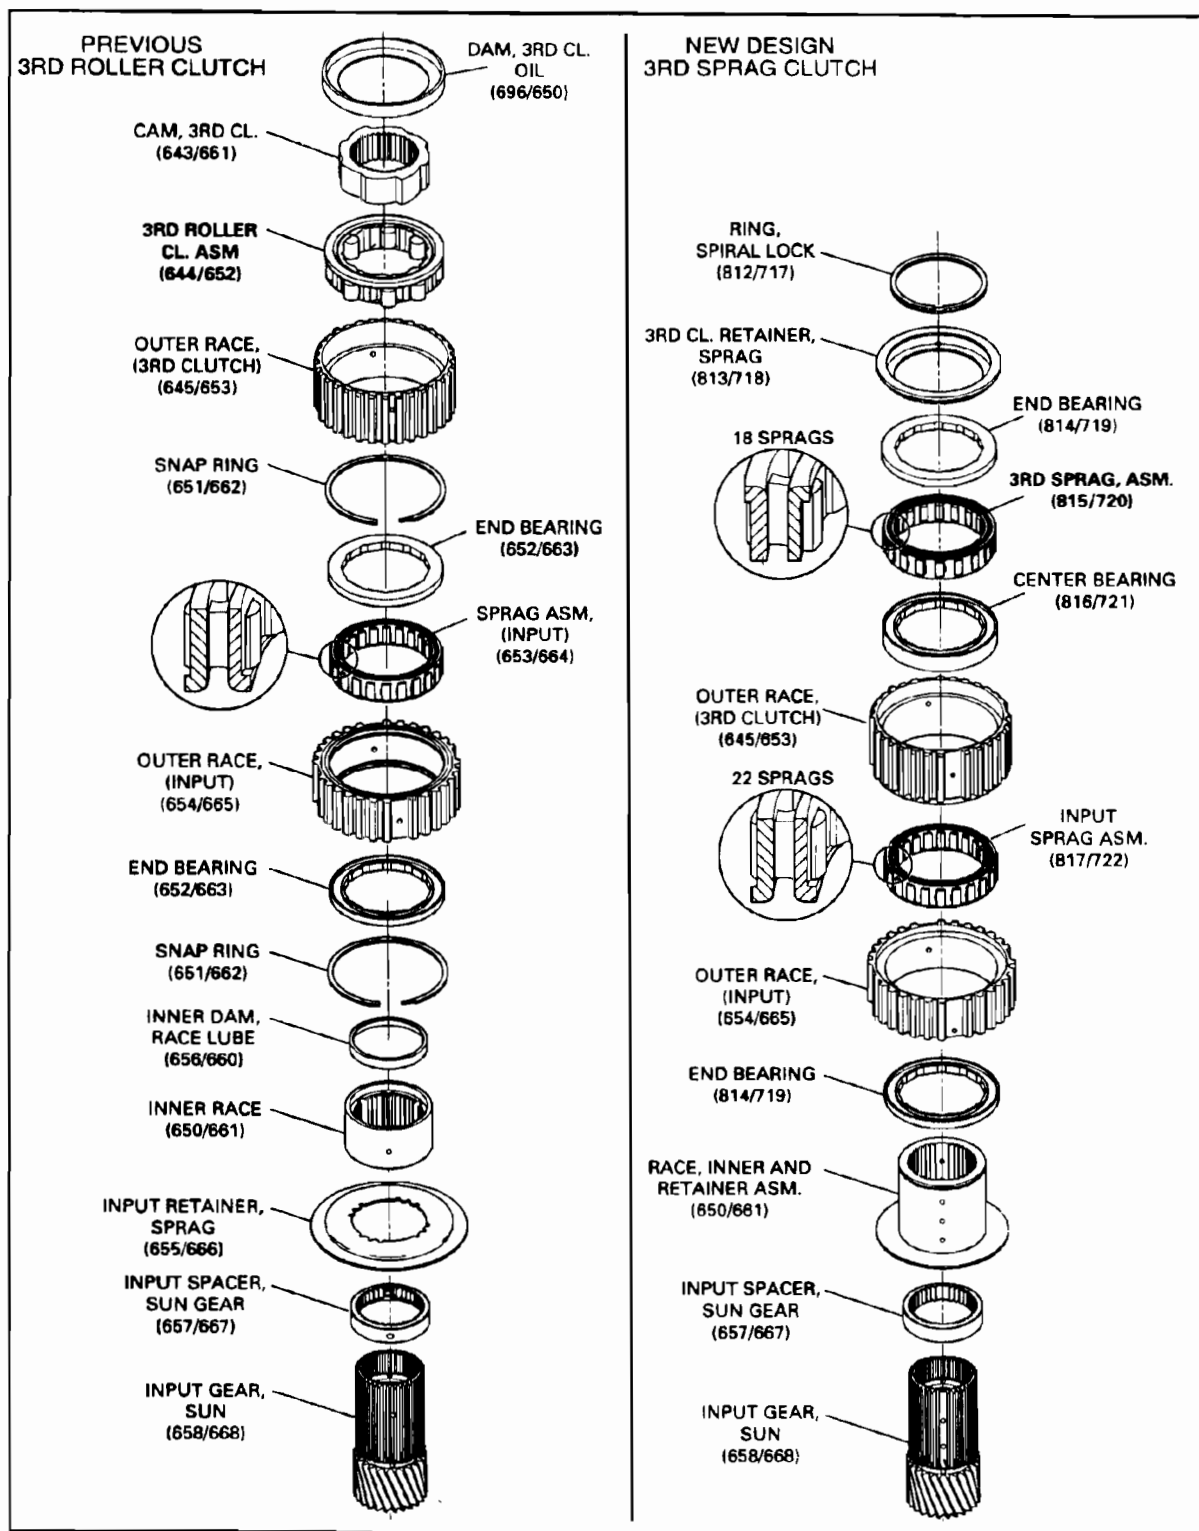

Figure 47
CHANGE: Beginning on February 1, 1993 (Julian Date 032) all THM 4T60-E transaxles were built with a new "Double Sprag" assembly, in place of the previous 3rd roller clutch and input sprag assembly (See Figure 47).
- (1) INPUT/3RD SPRAG ASSEMBLY - Completely changed in design and dimensions on ALL components of the assembly. Refer to Figure 47.